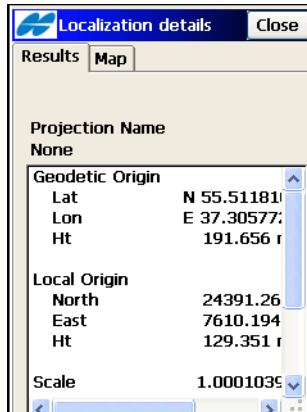

Figure 8-9. Localization Results
The *Localization Details* screen (Figure 8-9 on page 8-11) contains the *Results* and *Map* tabs.
- The *Results* tab (Figure 8-9 on page 8-11) displays calculated parameters of the localization: global coordinates, corresponding local coordinates, scale parameter, the azimuth, and plane slope angles (deflections) corresponding to north and east directions.